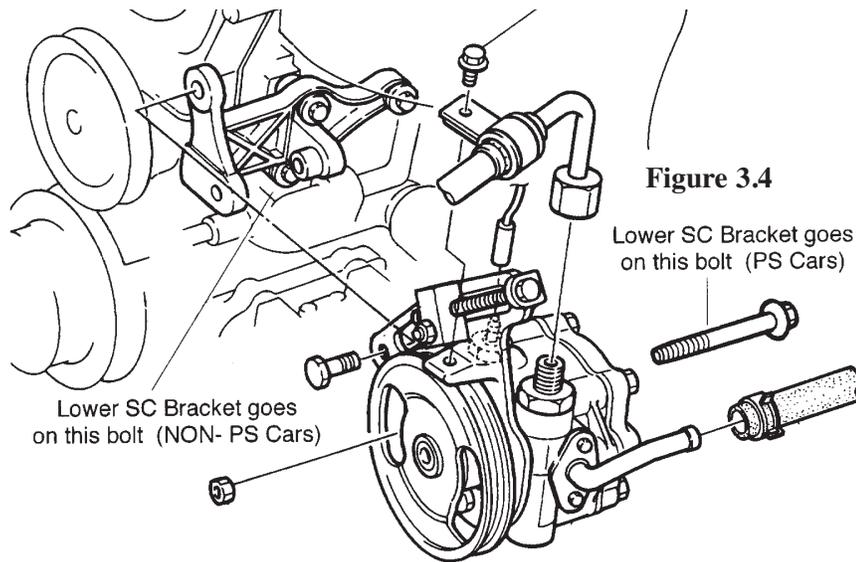

Figure 3.4
**3.6 NON POWER STEERING CARS:** Locate your lower bracket assembly from the kit. The end with the small 90 degree bracket mounts to the idler bracket (standard on AC equipped cars) or to new idler bracket (supplied with kit for non-AC, non-PS cars). Use the new, longer 10mm bolt provided to attach this bracket to the engine (Review figure 3.4 for bolt location).
power steering bracket to attach your lower bracket to, you will use special bracketry that we have included with your kit. Turn to figure 3.4 in the installation manual and find the note describing the bolt that will be used for the non-power steering car's lower strap bracket anchor. The Mazda idler pulley set-up for your 4-rib belt has a cast iron bracket that is bolted to the engine block. This bracket is held on by three large bolts. The lower bolt of the triangle pattern will be the one you attach our "L" bracket to. It is in the position noted in figure 3.4. This is where you will attach the small "L" bracket to the engine block using the new M10x50 fine thread bolt we provide. The lower strap bracket can then be attached to this "L" bracket, supporting the outside of the supercharger. For the belt drive, please remove all the adjustment hardware from the cast iron Mazda idler bracket (the idler pulley, the special mounting bolt, the vertical adjustment bolt, etc.). You will be left with just the naked iron bracket on the engine. Using the 2.5" diameter idler we provide, and the M10x50 bolt, washer and nyloc nut, mount the nylon idler to the front of the Mazda cast iron bracket. Make sure to put the Mazda Cast Iron washer under the bolt's head and to aim the bolt toward the radiator (see diagram). Run the belt over the crank pulley the supercharger and around the air conditioning compressor. Push the idler downward and tighten its center bolt to properly tension the 4-rib belt. If you are careful, a screwdriver can be placed in the cast iron Bracket's vertical slot to lever the pulley downward. This will help you get the proper
tension on the belt. You should have less than 3/8inch deflection on the longest run of the belt. If you find the belt to fit too tightly, gently rock the car in fourth gear while pressing the belt onto the pulley. Watch out for your fingers. **UNDER NO CIRCUMSTANCES SHOULD YOU USE THE ENGINE STARTER TO "BUMP" THE BELT ONTO THE SUPERCHARGER. DOING SO PUTS A HIGH LOAD ON THE SUPERCHARGER BEARING AND WILL VOID YOUR WARRANTY. IT ALSO IS VERY DANGEROUS.** Loosen the pinch bolts on your relocated power steering adjustment assembly (12mm head on pillow block pinch bolt, 14mm head on lower front bolt). Tighten the long bolt "D" per figure 3.4 to achieve correct belt tension. The longest run of the belt should not deflect more than 3/8 of an inch when pressed down with around 22 pounds of thumb pressure. The tension specification is 90 pounds. Re-tighten the pillow block pinch bolt, idler bracket bolt, and the power steering pivot bolt. An easy check for proper belt tension is done by listening to your belts during warm up. If turning the steering wheel with the air conditioning on creates a squeal, then the tension is far too loose. In general, only a slight amount of black dust should appear around the supercharger nose when the tension is correct. Heavy dusting indicates excessive belt wear from a loose belt. Check your tension again after the first 500 miles - it will loosen slightly as the belt wears in. **NEVER ATTEMPT TO ADJUST THE BELT WITH THE ENGINE RUNNING!** Re-tighten all bolts and double-check your work.